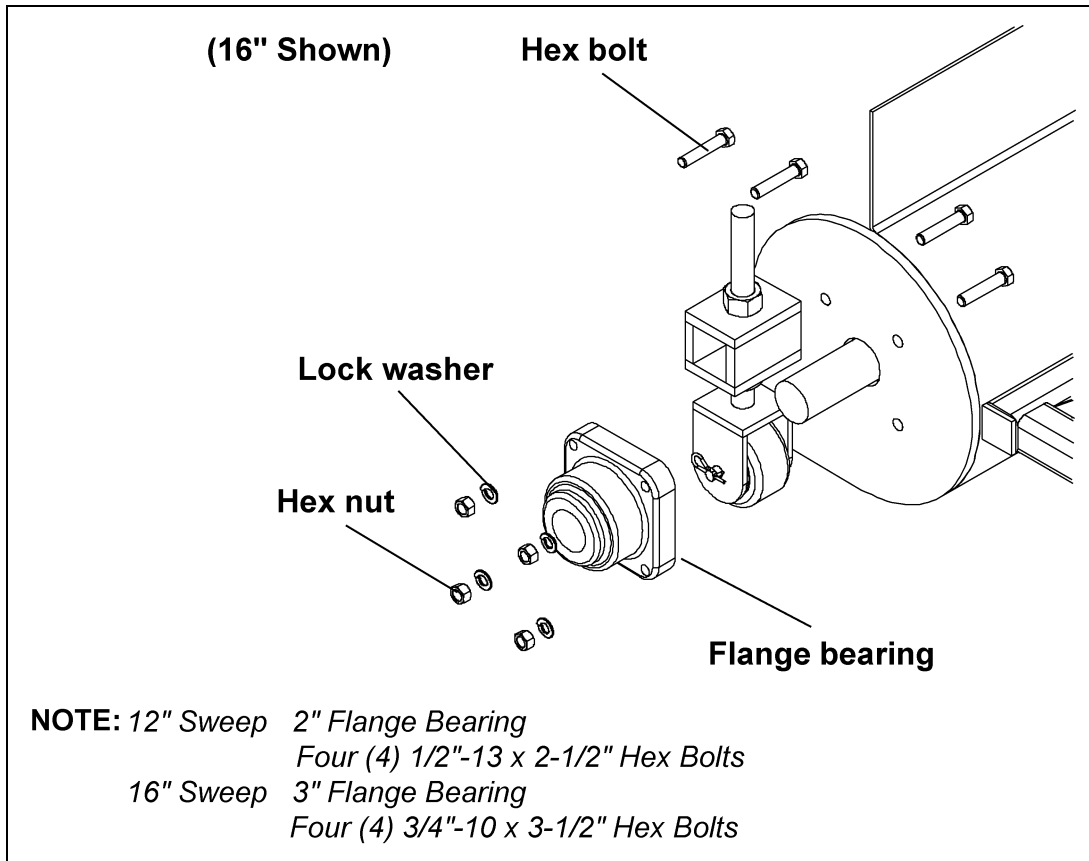

Figure 5G
A. Slide the flange bearing onto the end stub and bolt it to the end plate using hex bolts, lock washers and hex nuts as shown in See Figure 5G.